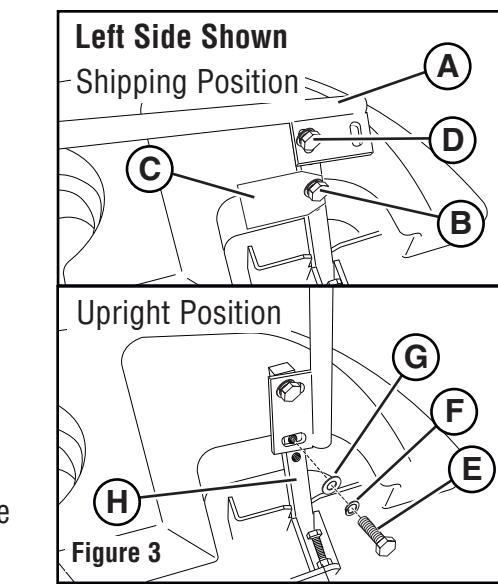

Figure 3
The ground speed / steering control levers (A, Figure 3) must be moved to the upright position before attempting to operate the machine.
- Remove the bottom mounting hardware (B). Discard the manilla tag (C).
- Loosen the upper mounting hardware (D).
- Position the ground speed / steering control levers in the upright position. See Figure 3.
- Loosely install the 5/16-18 X 1" bolt (E), 5/16" lock washer (F), 5/16" flat washer (G) that was removed in step 1, through the ground speed / steering control lever into the control lever base (H) as shown in Figure 3.
Les leviers de commande de vitesse de déplacement/direction (A, Figure 3) doivent être mis en position verticale avant de tenter d'utiliser la machine.